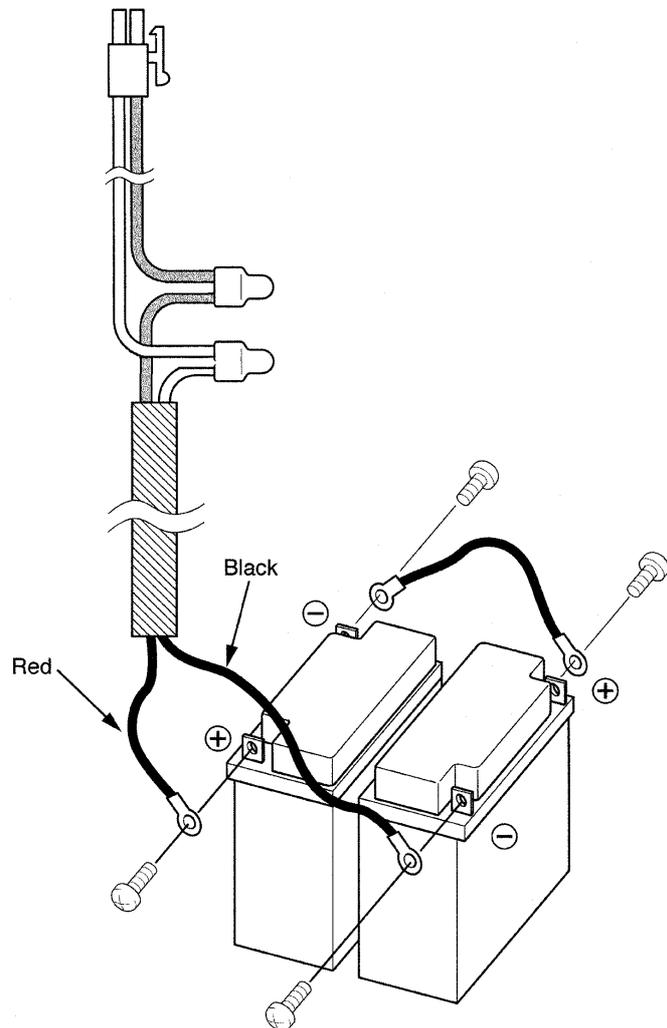

Figure 4-46 Connecting Cables for External Batteries
3. Connect the cable to the BATTERY INT connector of the PSU as shown in *Figure 4-46 Connecting Cables for External Batteries*.
1. Connect cabling to the external batteries as shown in *Figure 4-46 Connecting Cables for External Batteries*.